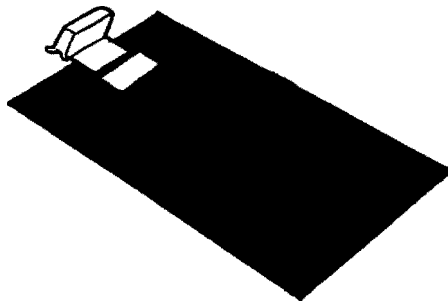

Figure 2.15 Clipboard.
1. Clipboards are lightweight, wooden devices that are designed to be clipped to the barn doors (light shapers attached to a light fixture) of a light in order to provide an additional plane or degree of control (Figure 2.15). This sometimes eliminates the need to set a flag.